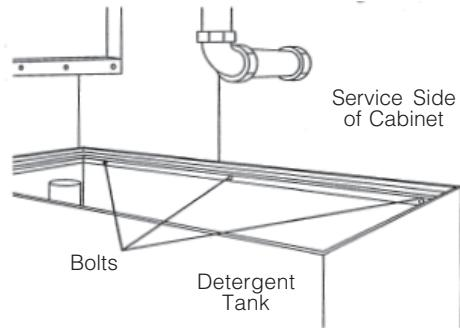

Figure 3-32. Install Detergent Tank
5. Attach top of detergent tank to cabinet by installing three bolts (finger tight) along back of tank (see Figure 3-32). Attach bottom of detergent tank to cabinet and stand (four mounting bolts).